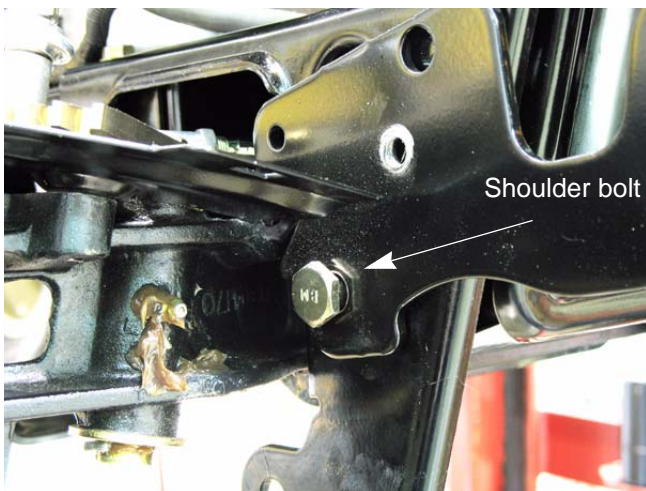

Figure 4.6
2. Pull the bumper straight forward, sliding the bumper off of the shoulder bolts. See Figure 4.6.